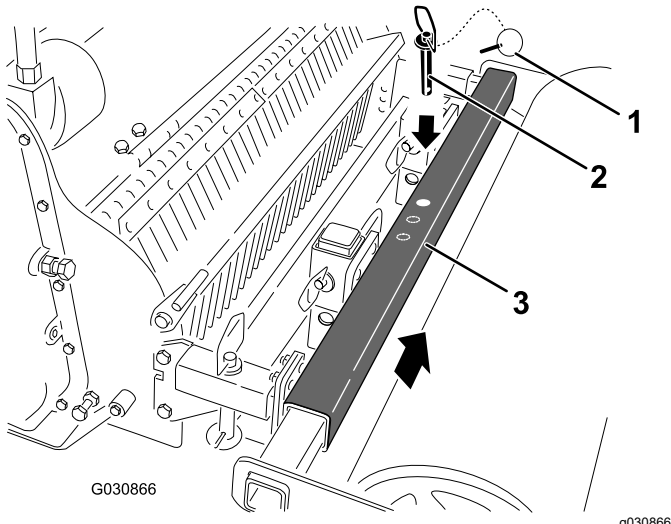

Figure 8
3. Remove the drift pin (Figure 8).
4. Slide the roller to the desired position (Figure 8).